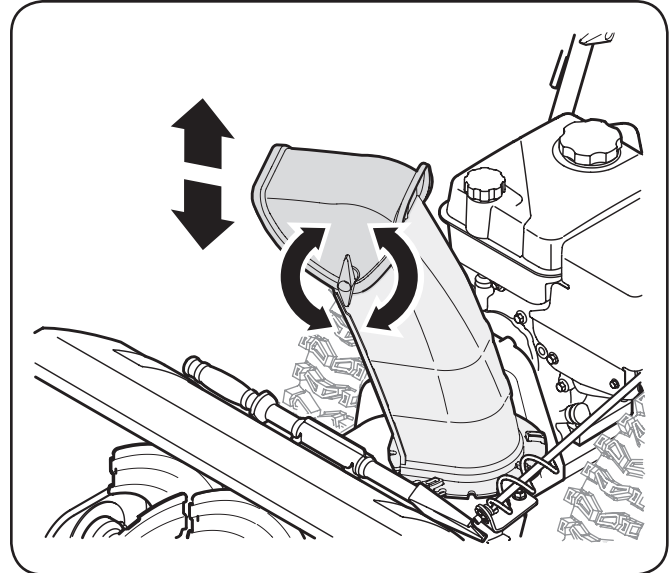

Figure 3-11
2. Pivot the chute upward or downward before retightening the wing knob. See Fig. 3-11.